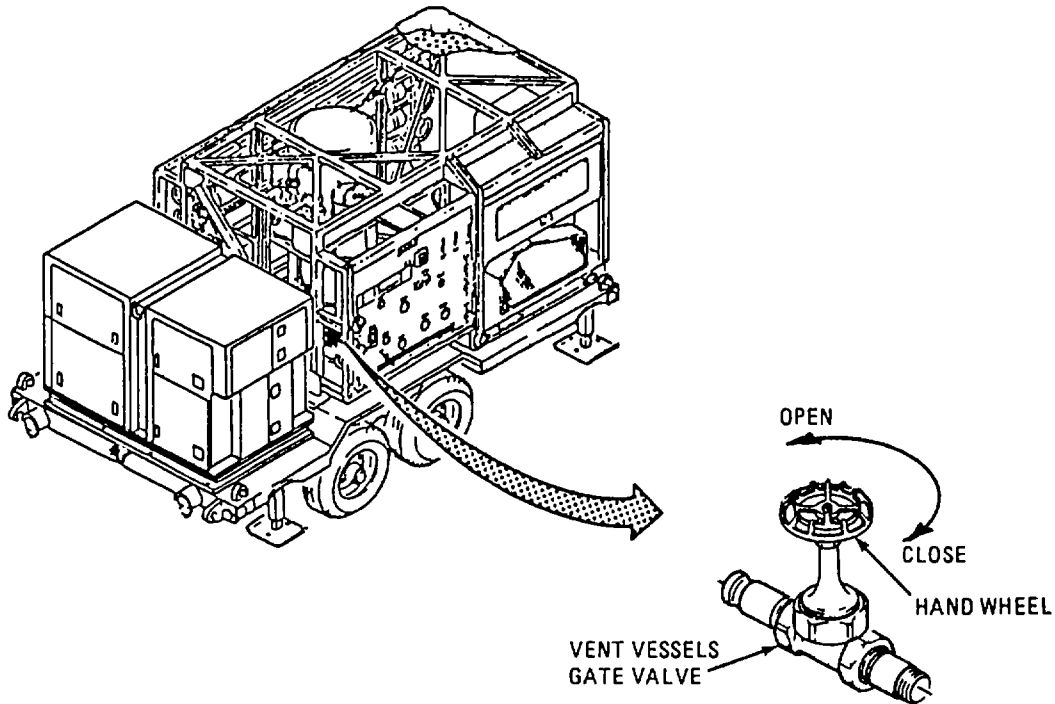

Figure 2-6. Vent Vessels Gate Valve.
- e. Vent Vessels Gate Valve. Refer to figure 2-6. The vent vessel gate valve is located to the left and behind the control panel. Closing the vent vessels valve forces water to R.O. vessels. Turning handwheel fully clockwise closes the valve, turning fully counterclockwise opens the valve. Vent vessel valve diverts water from R.O. elements until polymer is adjusted and multimedia filter bed settles.